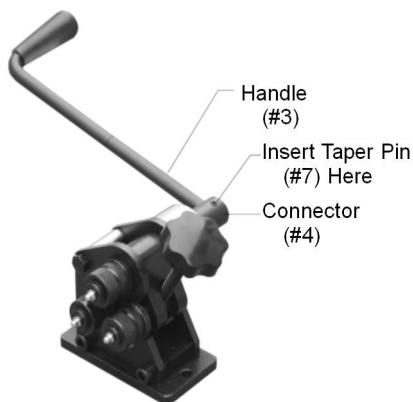

Figure 1
1. Slide the CONNECTOR (#4) onto the DRIVE SHAFT II (#11). Make sure the holes line up. See Figure 1.